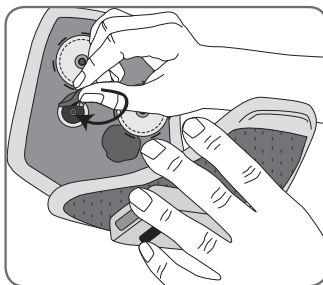

Figure 9-10: Snapping the L300 electrode bases to the L300 FS Cuff plug holes.
5. Snap the new L300 electrode bases to the L300 FS Cuff plug holes. See Figure 9-10.